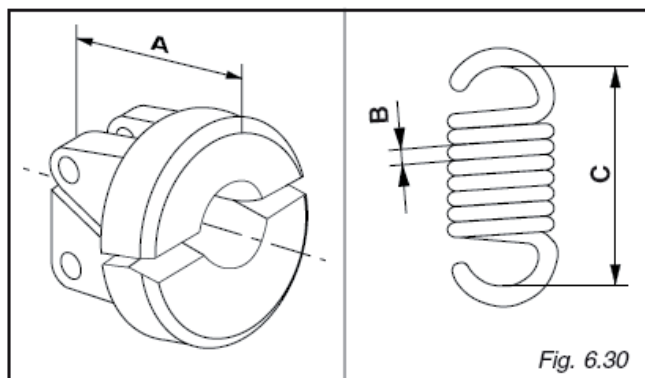

Fig. 6.30
6.19 Governor counterweights (Fig. 6.30)